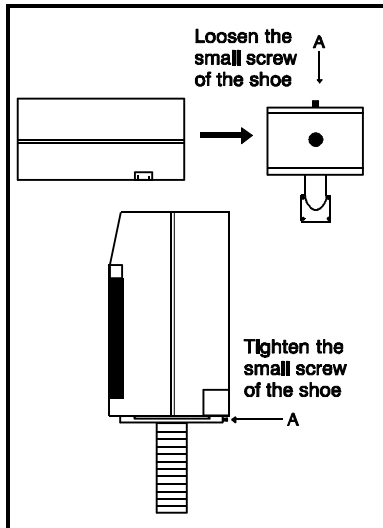

Figure 3
1. To prevent obstruction when sliding the scanner into place, loosen the small screw (A) located in the center of the long part of the shoe with a 3/32" hex key wrench. (Refer to Figure 3)
3. Tighten the small screw (A) located at the center of the long part of the shoe. This screw holds the scanner in place.